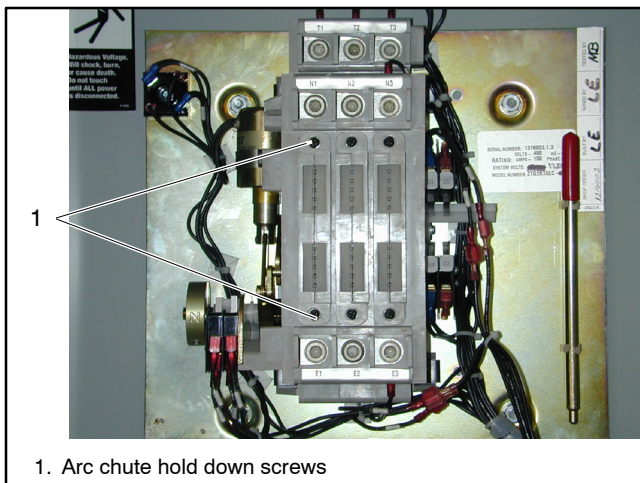

Figure 7-7 Arc Chute Screws
5. Remove the arc chute hold down screws. See Figure 7-7.